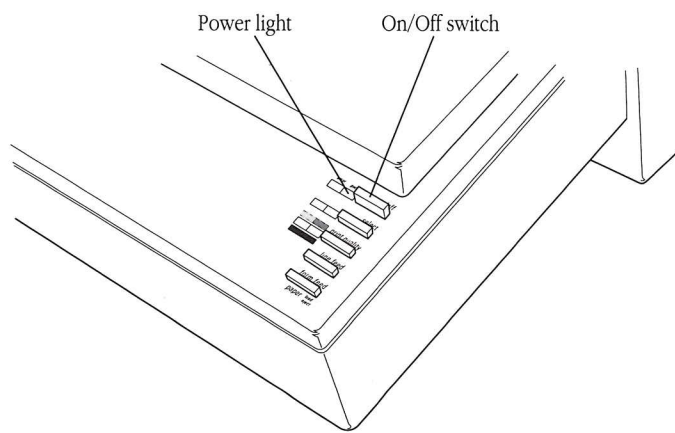

Figure 2-9 The On/Off switch and related lights
2. Press the On/Off switch. (See Figure 2-9.)